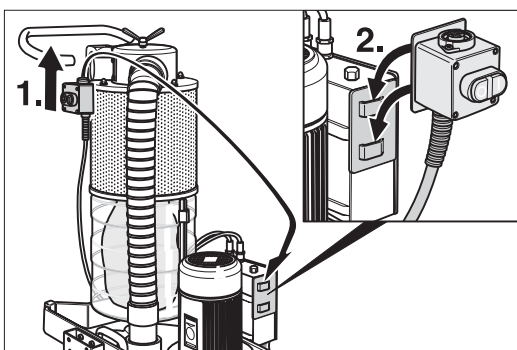

Fig. 44 Hook the on/off switch into the transport holder on the switchbox.
- 6 Unhook the on/off switch from the chassis and hook it into transport support on motor switchbox (Fig. 44).